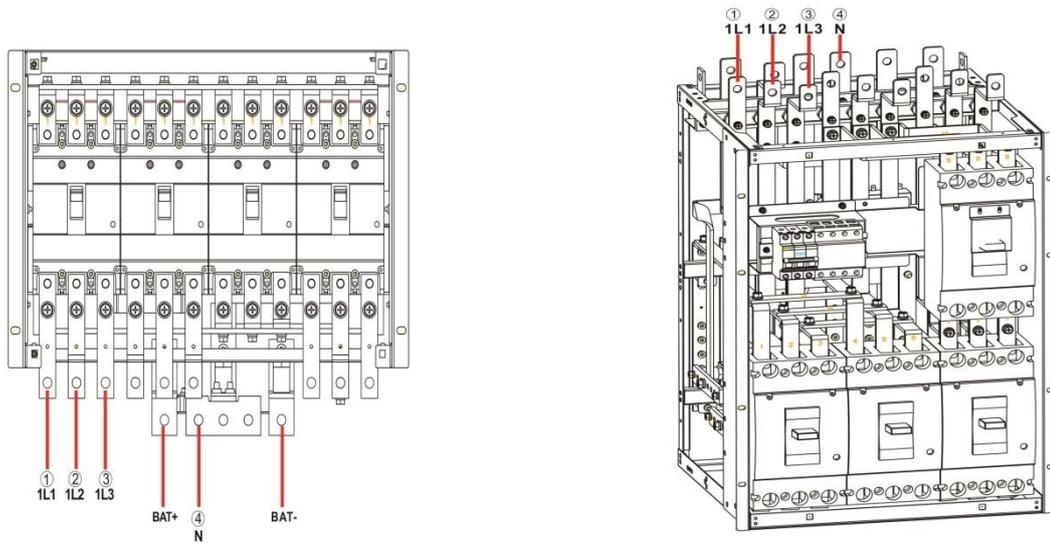

Fig.3-14 Connect the AC input cable (100kVA) Fig.3-15 Connect the AC input cable (200kVA)
Step 2: Connect the AC input cables to the main input power distribution terminals 1L1, 1L2, 1L3, and N in sequence, as shown in Figure 3-14 and Figure 3-15. Before powering on, please use a multimeter to confirm that there is no short circuit between each phase of the terminals.